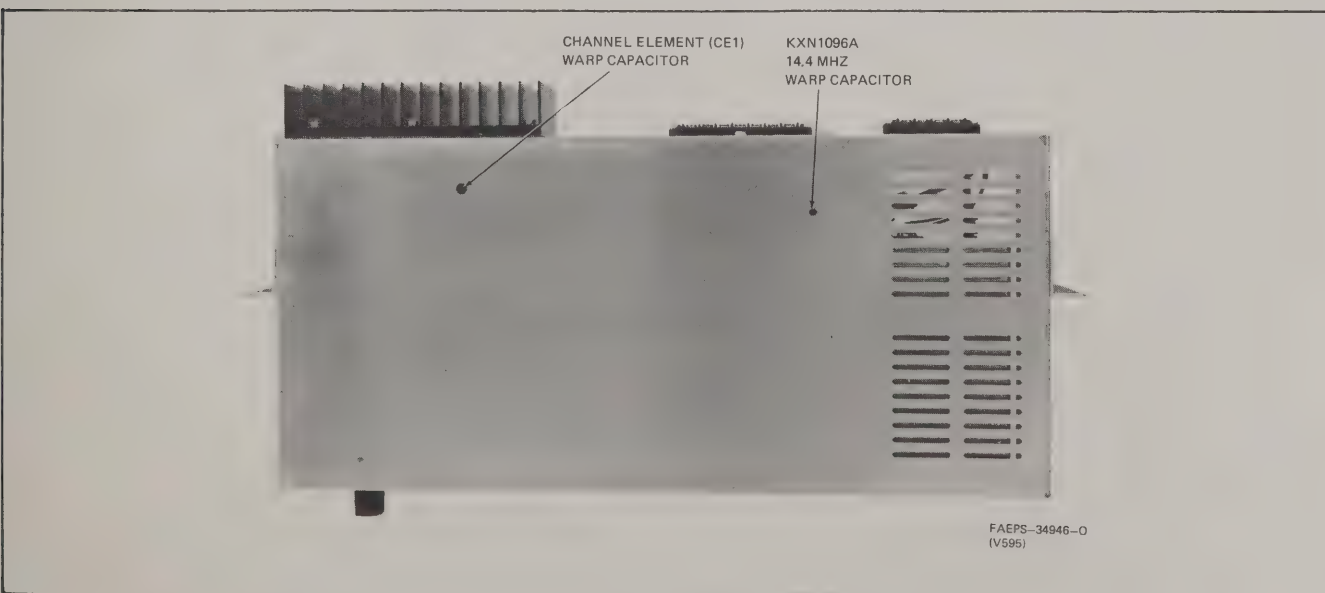

Figure 3. Synthesizer Tuning Adjustment Location
Adjust U18 warp coil (located through small hole on top of chassis, (see Figure 3) for $1.5 \text{ V} \pm 0.1 \text{ V}$ dc at test point 1 (junction of C82 and R150). A high resistance voltmeter (11 megohm, R1002 or equivalent) must be used.
Step 2. Set CE1 warp capacitor for $4.7 \text{ V} \pm 0.3 \text{ V}$ dc at test point 2 (junction of R151 and C83). Use a high resistance voltmeter as before. Refer to Figure 3 for location of tuning hole.